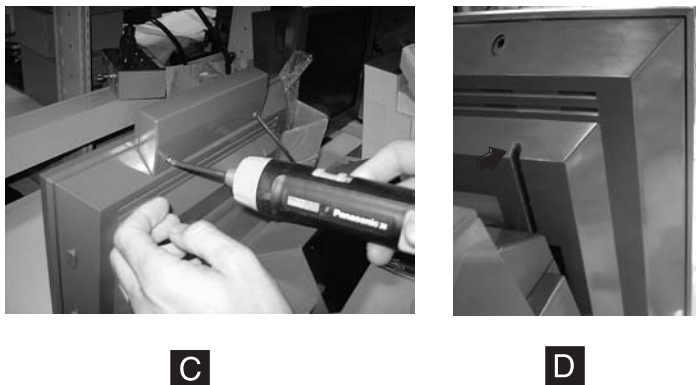

Figure 10. Installing the antenna enclosure
3. See **C** in Figure 10. Insert the two screws into the back of the antenna-enclosure assembly and tighten to fasten the unit to the top of the display.